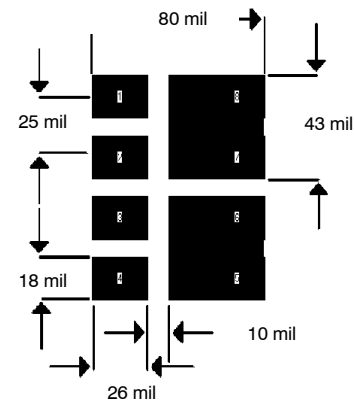
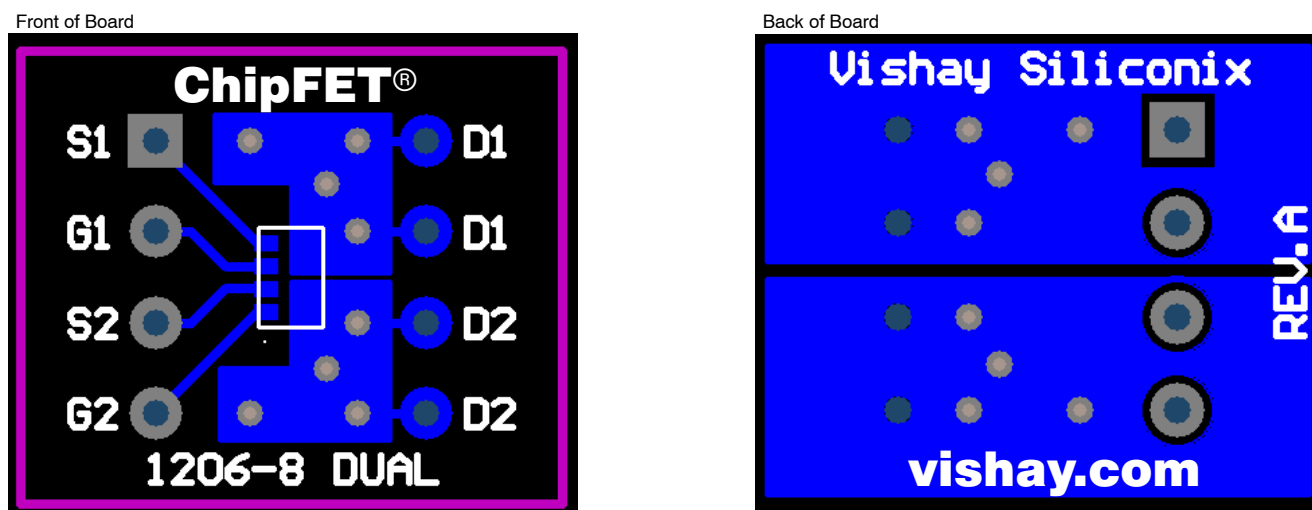

FIGURE 2. Footprint With Copper Spreading
FIGURE 3.
The pad pattern with copper spreading shown in Figure 2 improves the thermal area of the drain connections (pins 5 and 6, pins 7 and 8) while remaining within the confines of the basic footprint. The drain copper area is 0.0019 sq. in. or 1.22 sq. mm. This will assist the power dissipation path away from the device (through the copper leadframe) and into the board and exterior chassis (if applicable) for the dual device. The addition of a further copper area and/or the addition of vias to other board layers will enhance the performance still further. An example of this method is implemented on the Vishay Siliconix Evaluation Board described in the next section (Figure 3).
2) The evaluation board with the pad pattern described on Figure 3.	128°C/W